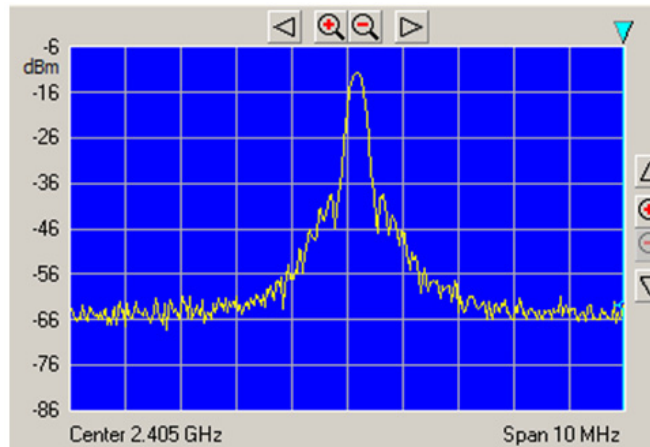

Figure 3-8. Transmit Without Modulation (CW Mode)
Figure 3-8 shows Continuous Wave (CW) Mode.